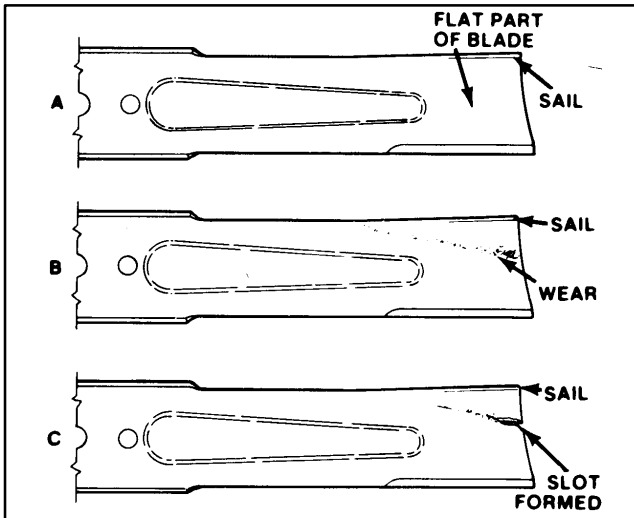

Figure 34
(Fig. 34–35)
2. Examine cutting ends of the blade carefully, especially where the flat and curved parts of the blade meet (Fig. 34–A). Since sand and abrasive material can wear away the metal that connects the flat and curved parts of the blade, check the blade before using the machine. If wear is noticed (Fig. 34–B), replace the blade: refer to Removing Cutter Blade.